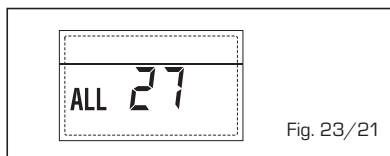

Fig. 23/21
- **ANOMALIA COERÊNCIA ENTRADA (S3) SOMENTE POR SISTEMA 7 "ALL 28" (fig. 23/22)**